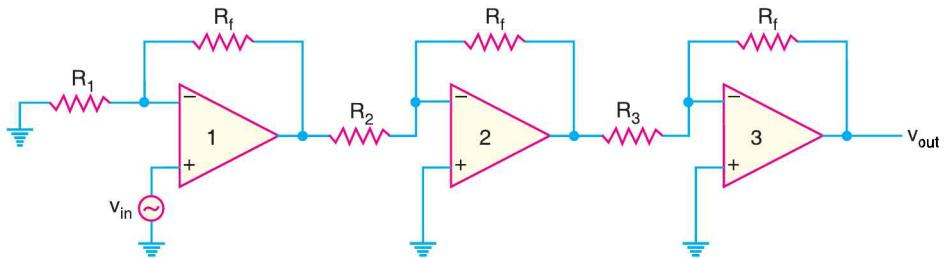

Fig. 25.63
When a number of OP-amp stages are connected in series, the overall voltage gain is equal to the product of individual stage gains. Fig. 25.63 shows connection of three stages. The first stage is connected to provide noninverting gain. The next two stages provide inverting gains.
**Example 25.38.** Fig. 25.63 shows the multi-stage OP-amp circuit. The resistor values are :  $R_f = 470 \text{ k}\Omega$ ;  $R_1 = 4.3 \text{ k}\Omega$ ;  $R_2 = 33 \text{ k}\Omega$  and  $R_3 = 33 \text{ k}\Omega$ . Find the output voltage for an input of  $80 \mu\text{V}$ .